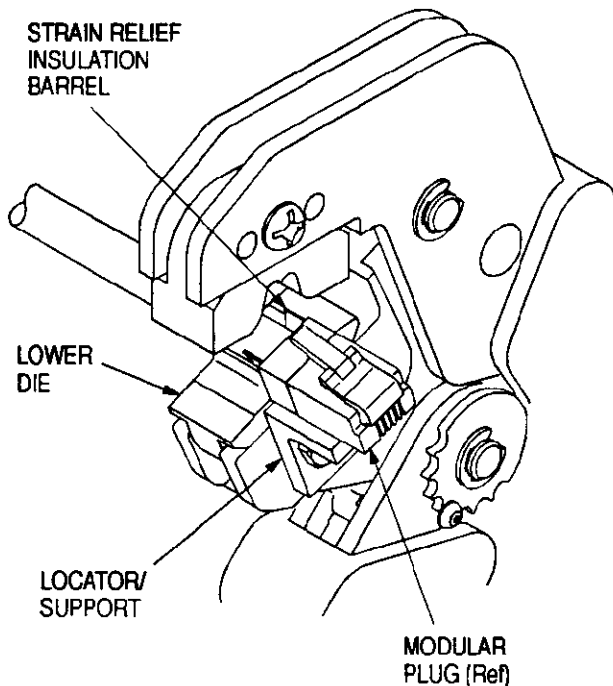

Figure 2
#### 4.2. Strain Relief Crimping (Figure 2)
2. Measure the crimped height of the strain relief insulation barrel (refer to Figure 2) with calipers or a cone micrometer. The crimped height must be  $4.57 \pm 0.10$  [.180  $\pm$ .004].